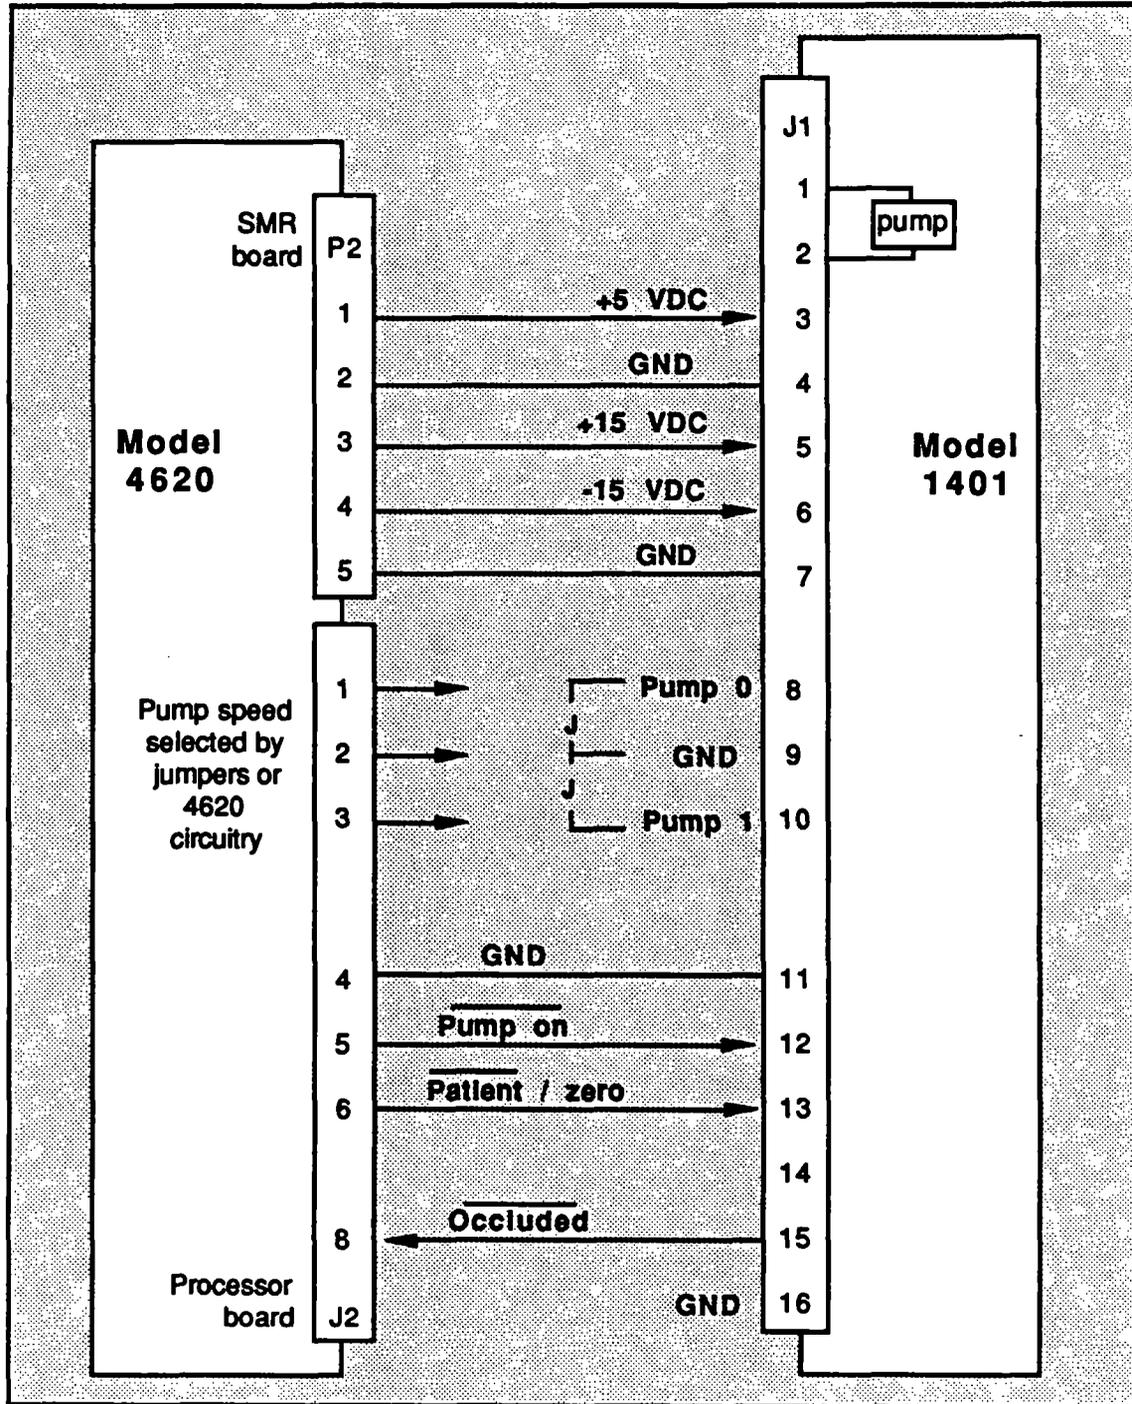

Figure 8-3. Interconnect Diagram
**Logic:** Electrical connections are made to connector J1 on the 1401 PC board, as shown in Figure 8-3. All control inputs are TTL compatible. The Model 4620 Gas Analyzer normally drives pins 11 through 14. The 1401 issues a single logic output, the Occluded line. This line is described in Section 8.5.
The solenoid valve is controlled by a TTL logic level signal that is supplied to J1 on the 1401. This line is shown in figure 8-3, and is labelled "Patient/zero".
The flow rate is selected through J1 pins 8 and 10, as shown in Figure 8-3. The two TTL inputs have the following sense:
The pin out for power connections is shown in Figure 8-3 (Interconnect Diagram).